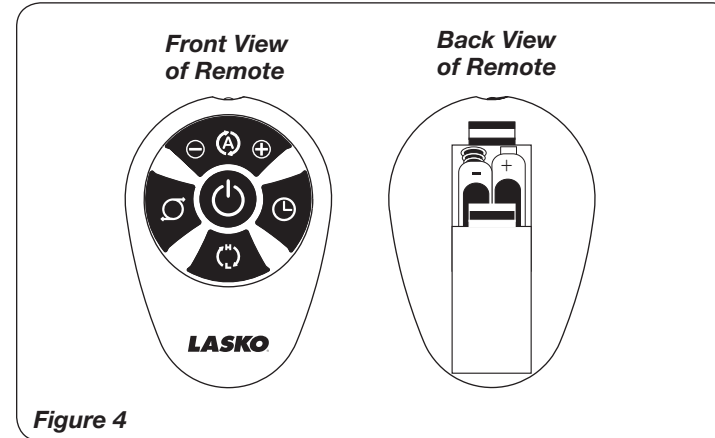

Figure 4
5. Align the Base Assembly with the Column Support Assembly. Make certain to align the Locating Notch on the Column Support Assembly with the Key on the Base Assembly. (Figure 4) Attach the Base Assembly to the Column Support Assembly with (4) M5 X 13mm Screws. Gently pull any excess slack of the Power Supply Cord and place it in the Cord Channel of the Base Assembly. (Figure 5)
REMOTE CONTROL (Figure 4)
1. Install the two “AAA” batteries supplied. (Figure 4)